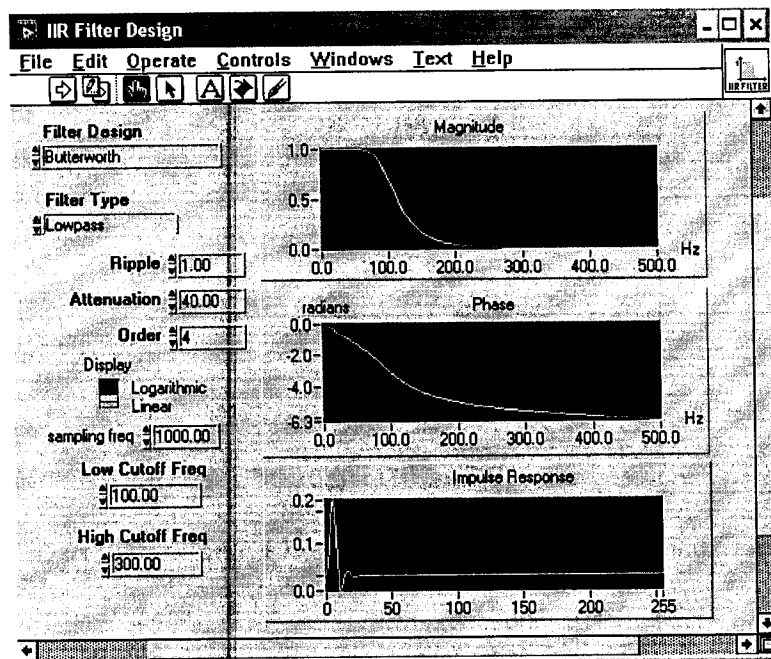

Figure 9
15. From Windows, start the program LVSE31 (LabVIEW Student Edition 3.1, an older version of LabVIEW with some nice instructional vi's). From the file menu, select open followed by the directories **examples** and **analysis**. Open the "vi" **IIR Filter Design**. The screen in Figure 9 will be displayed.